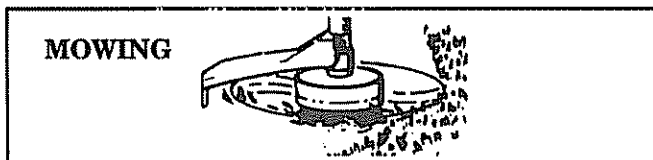

Figure 9
3. **MOWING**— **Figure 9** . Your trimmer is ideal for mowing in places conventional lawn mowers cannot reach. In the mowing position, keep the line parallel to the ground. Avoid pressing the head into the ground as this can scalp the ground and damage the tool.